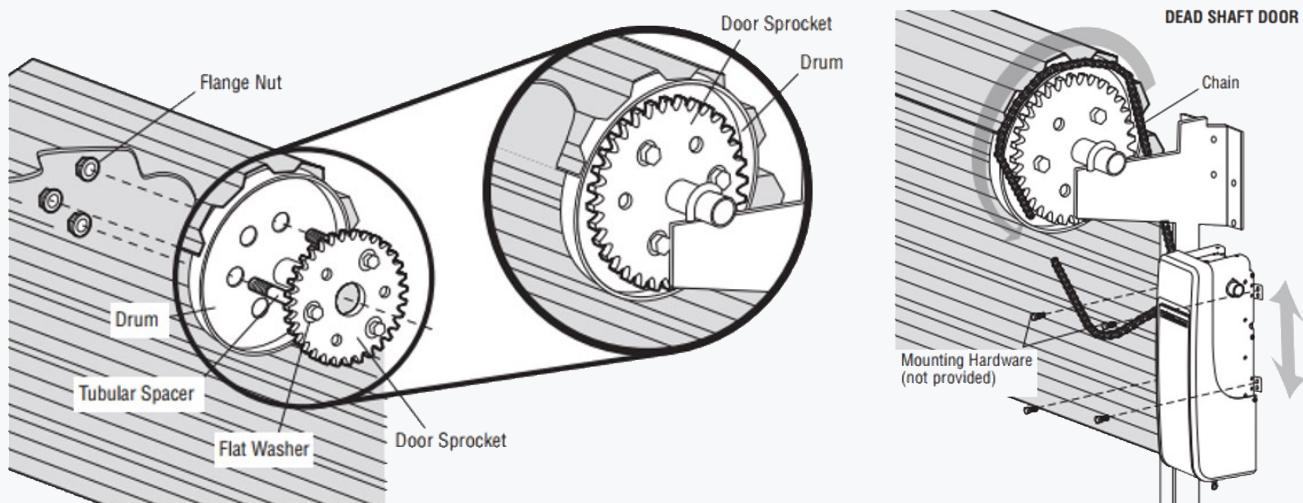

figure 10
- ♦ Install sprocket per manufacturers instructional manual, see example in **Figure 10**.